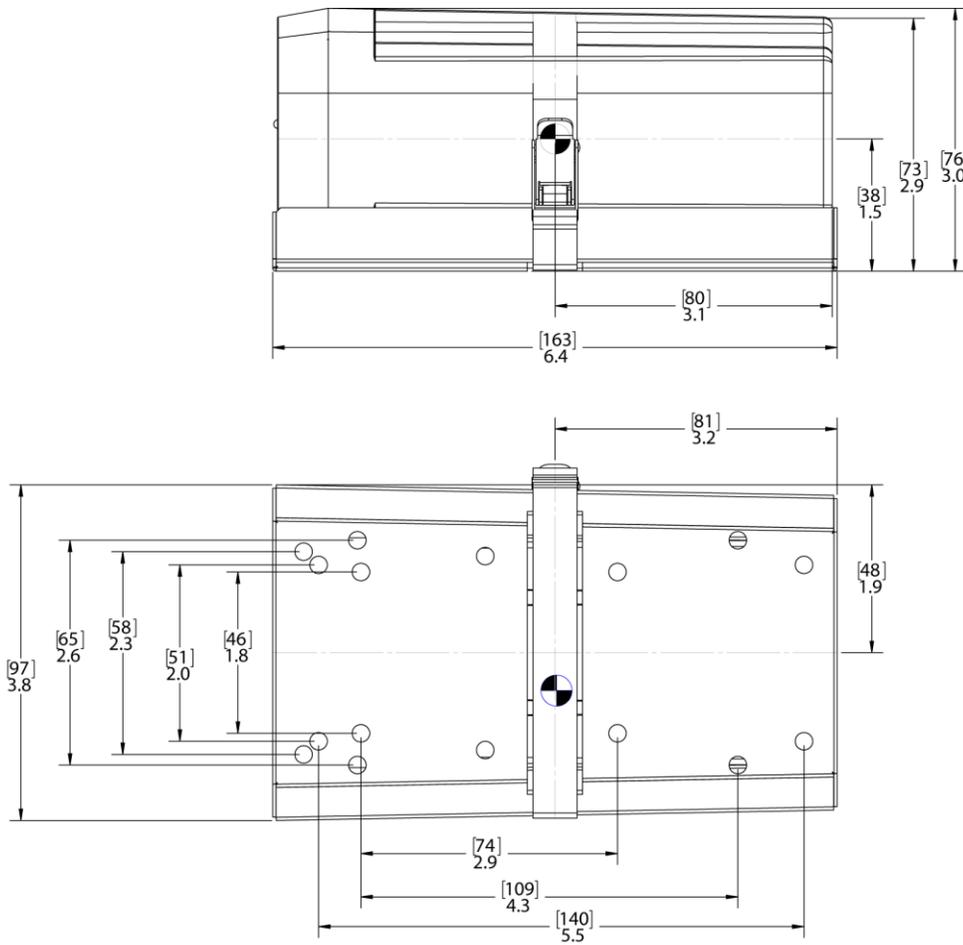
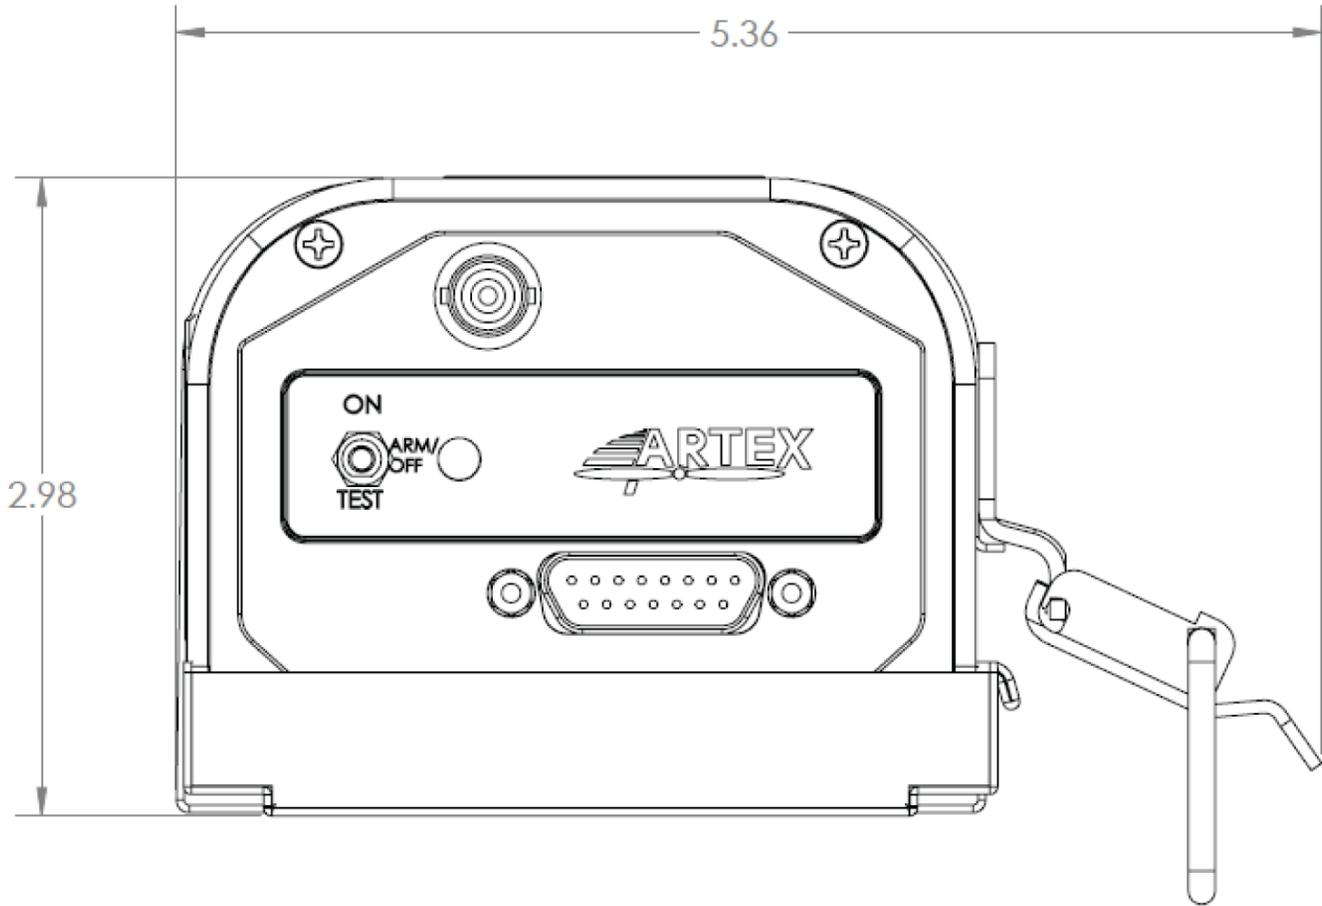

Figure 11 ARTEX ELT 345 Outline & Dimensions
Figure 12 ELT 345 Metal Strap Minimum Clearance Dimensions
- 1) Select a suitable location for the ELT mounting tray (see Figure 11 ARTEX ELT 345 Outline & Dimensions on page 38 and Figure 12 ELT 345 Metal Strap Minimum Clearance Dimensions above).
- 4) Mark and drill the four mounting holes with a #19 or 4.25 mm drill. Refer to Figure 11 on page 38 for the mounting hole pattern.